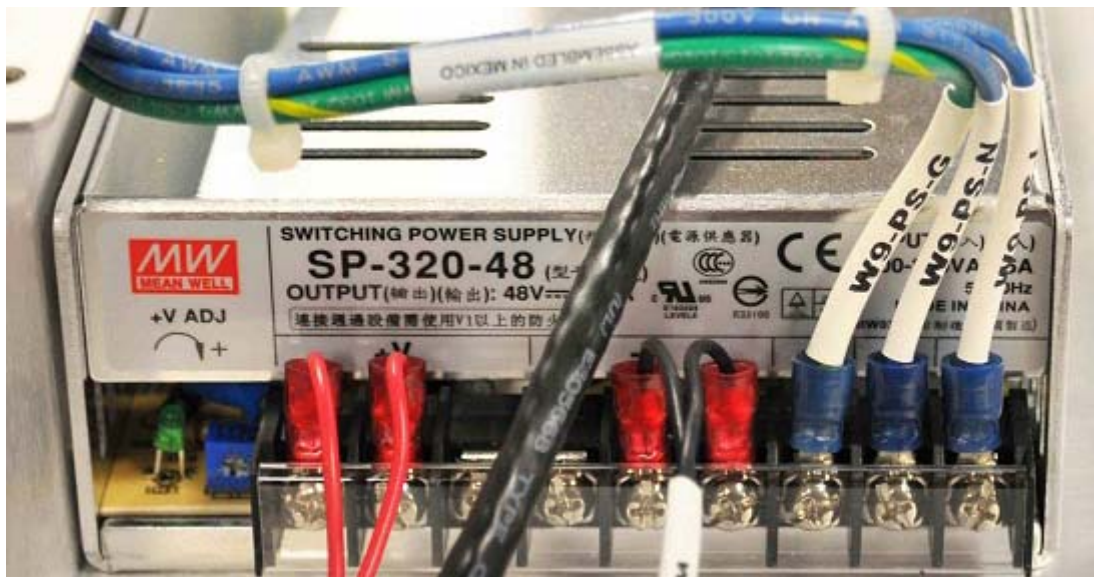

Figure 5-7 Power Supply Wire Terminals
- STEP 2** Remove the wires from the terminal strip on the end of the module. The clear plastic shield just snaps off by pulling out. Figure 5-7 shows the wiring configuration for reference. It may be necessary to remove the Ethernet cable to get the supply out.